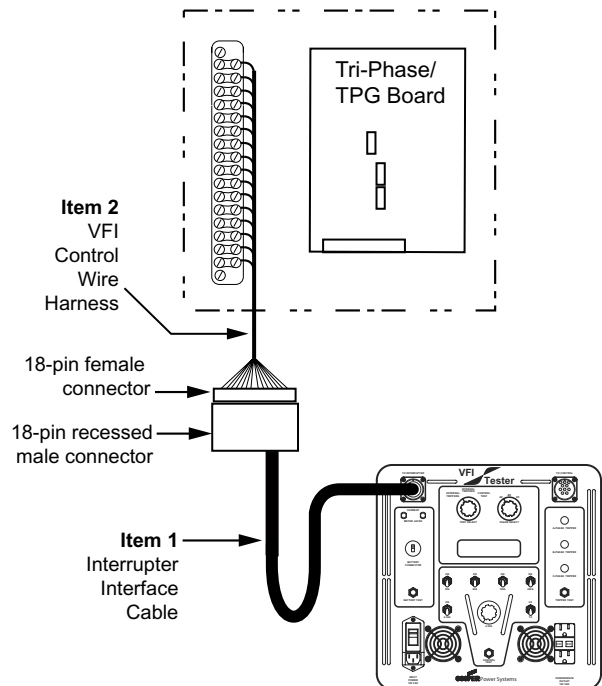

Figure 8.
3. Connect the 14-pin female/18-pin male interrupter interface cable (Item 1) to the VFI Tester at the interrupter port. Refer to Figure 8 for steps 3 through 17.